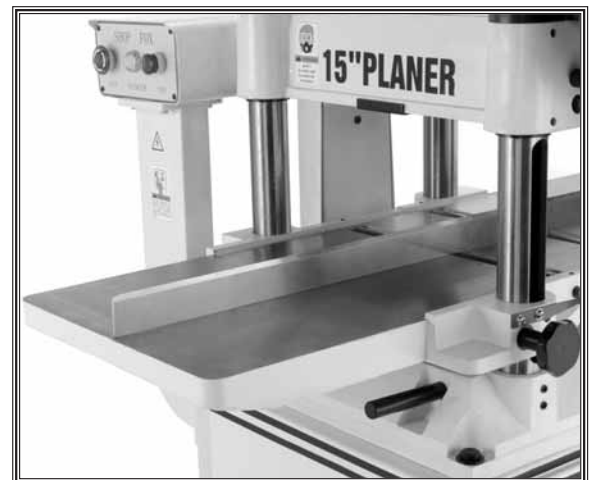

Figure 6. Setting wing height.
5. Place a straightedge flat across the table and across the wings as shown in **Figure 6**.